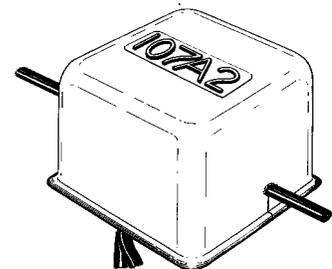

Fig. 3 - 107A2 Wire Terminal (Cover in place)
2.04 After completing wire work on the blocks, place the cover over the terminal and push the cover down into place. Be sure the cover is snugly in place with the locking projections in position in the slots on the under side of the blocks. The cover should fit closely around the C Rural Wire at each end, as shown in Fig. 3.